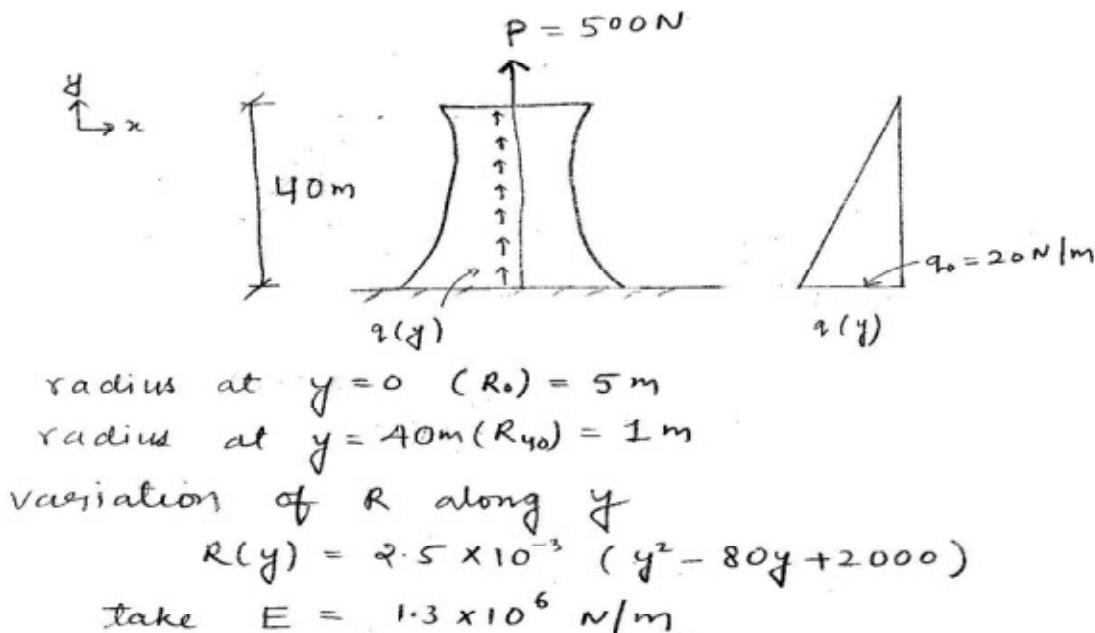

Figure 3
3. For the axially loaded bar with varying cross section shown in Figure 3: